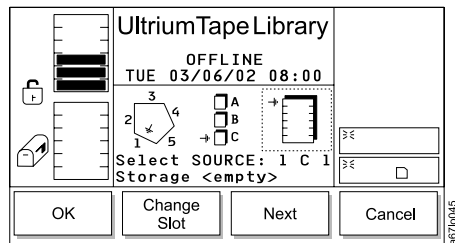

Figure 141. Change Slot Dialog
- Press the button below the **Change Magazine** softkey until the arrow in the middle icon points to the magazine that you want. Press the **Next** softkey. The Change Slot Dialog displays (see Figure 141 on page 129).